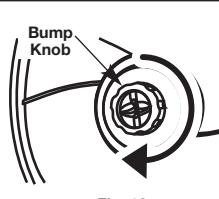

Fig. 12
- Rotate the bump knob clockwise until all line is inside the cutting head (Fig. 12).
- Hold the spool cover, turn the bump knob clockwise to wind the line around the spool until about 5 in. (12.7 cm) is protruding from each side of the cutting head. (Fig. 12)